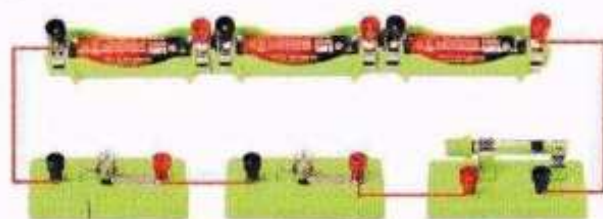

图2-1
1. Assemble the circuit as shown in Figure 2-1, and observe and explore the characteristics of the circuit (outside the power supply, the current always flows from the positive pole of the power supply through the circuit to the negative pole).
2. Then change the connection method of the switch according to Figure 2-1 and Figure 2-3, study the switch function of the series circuit, and explore the characteristics of the series circuit.
The circuit diagram corresponding to Figure 2-1